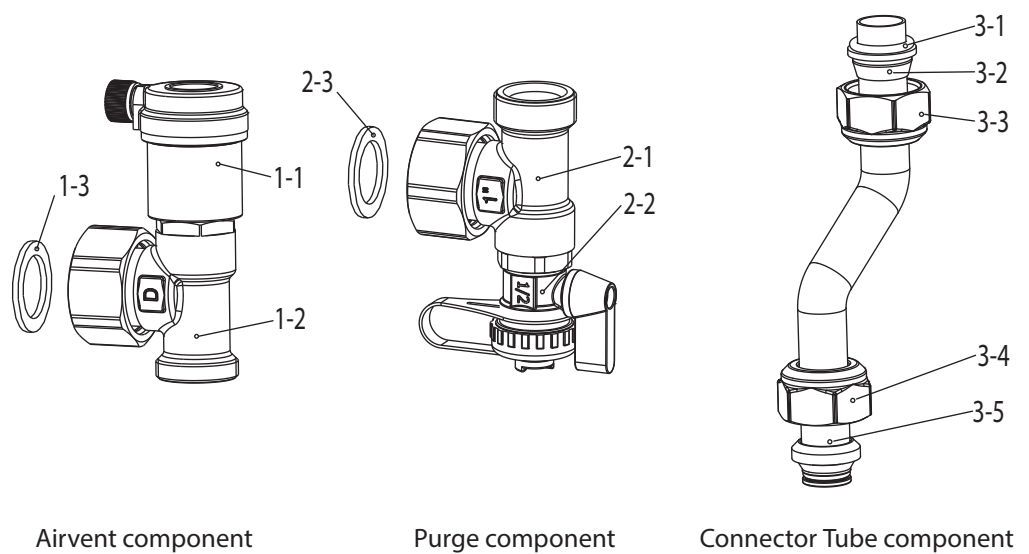

Fig. 2
3. Checked each part position on the connector tube component 3, the parts position shown in fig.2.